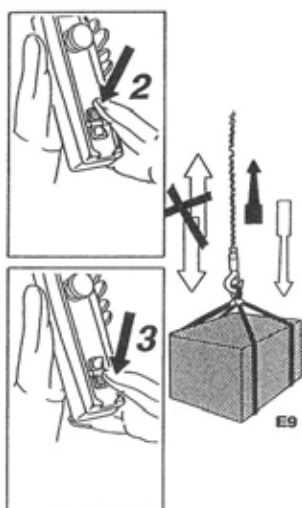

fig.105
9. Adjustment is completed when performing raise/lowering movement with the sample weight the clutch device tends to slip. (fig.105)